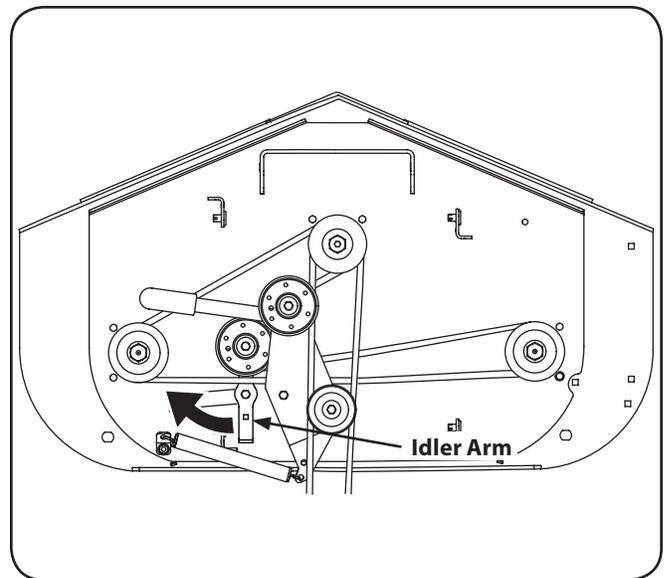

Figure 7-3
3. Using a 1/2" socket breaker bar or socket ratchet insert the male end into the 1/2" square opening in the lower idler arm assembly and pull the idler arm clockwise. See Fig. 7-3. While holding the idler arm back, loosen the deck belt from the pulley and slide the belt away from the pulley.